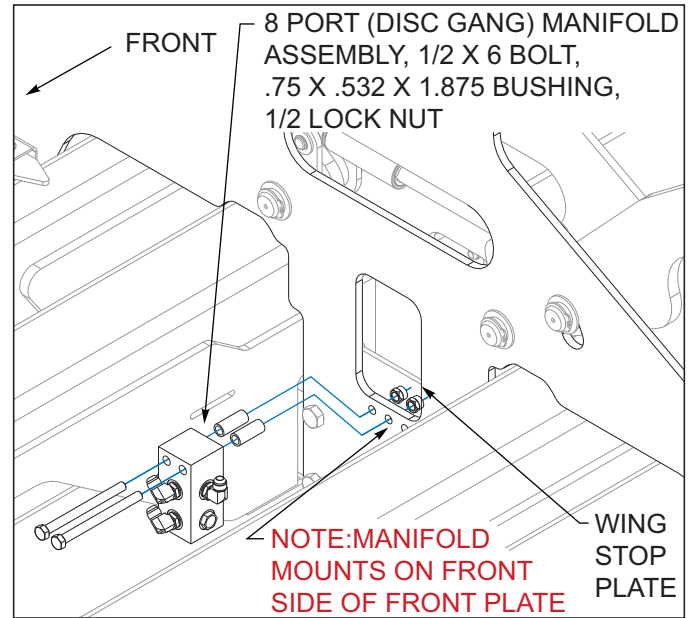

Figure 3-20: 8 Port Manifold Installation Middle
5. **Models 2411AFG-07-09** install the 8 port manifold to the front side of the wing stop plate on the center frame using 1/2 x 6 bolts, .75 x .532 x 1.875 round tube and 1/2 lock nuts **See Figures 3-20.**